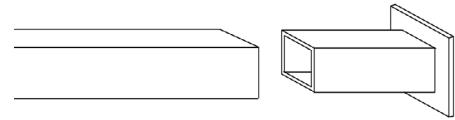

Fig.2
4. Place the STENNI over the sockets and screw the grub screw into the pre-drilled holes using the Allen key. (Fig. 2 & 3)